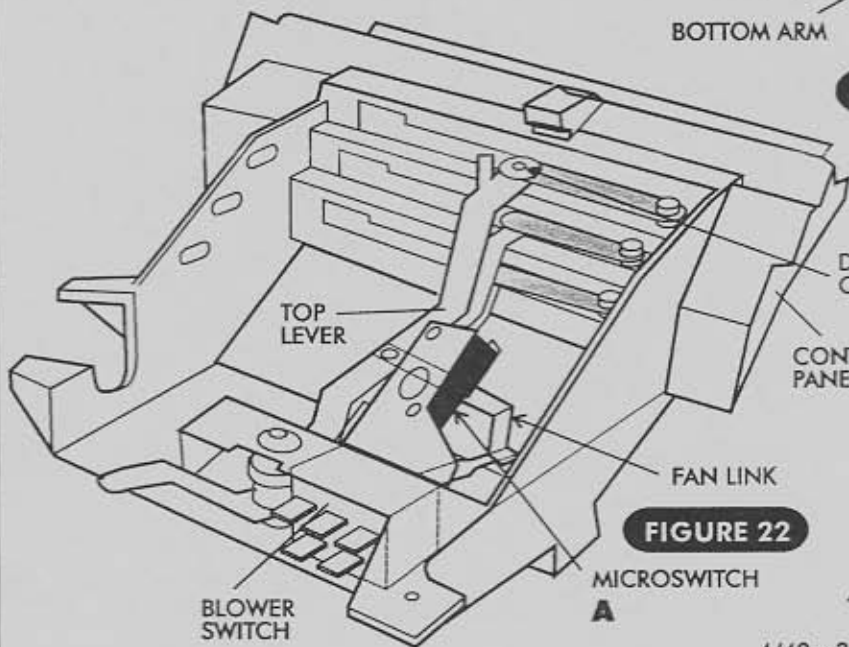

FIGURE 22
- REMOVE TOP ARM (DISCARD). SEE FIGURE 22.